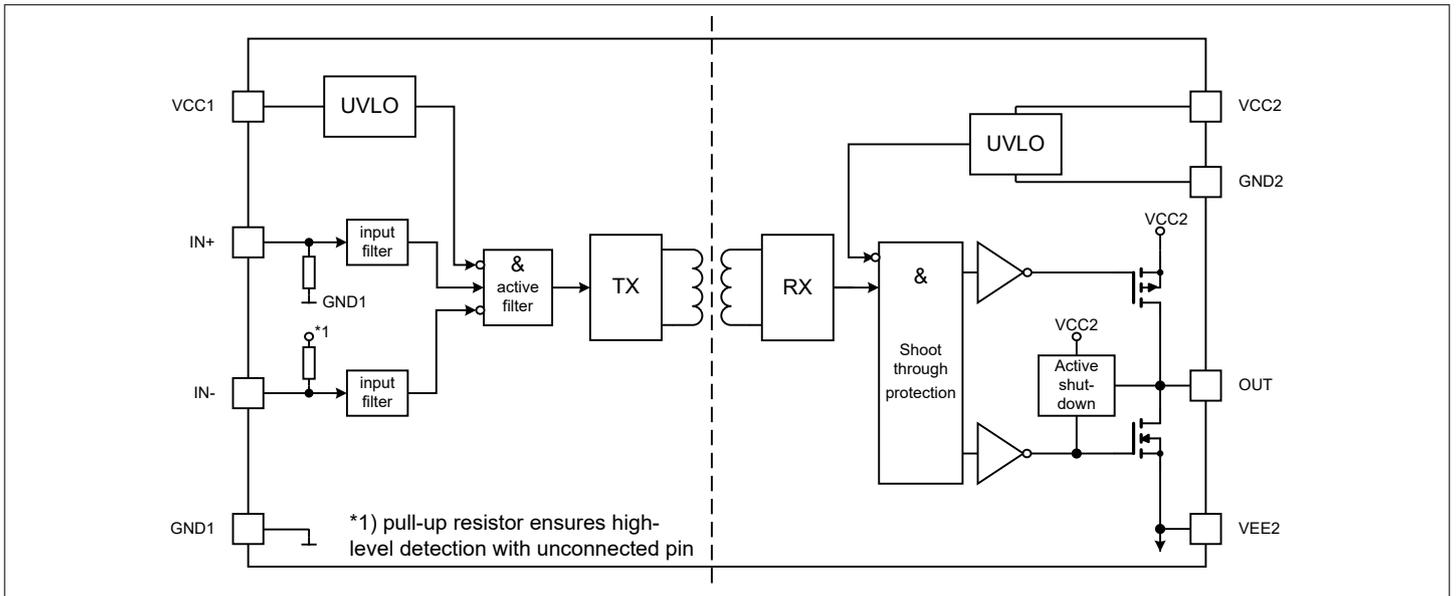

Figure 4 Block diagram for 1EDR3144HQE and 1EDR3146HQE
- **IN+:** Non-inverted control signal for driver output. An internal filter provides robustness against noise at *IN+*. If left open, an internal, weak pull-down resistor pulls this pin to a low state, as shown in Figure 4
- **IN-:** Inverted control signal for driver output. An internal filter provides robustness against noise at *IN-*. If left open, an internal, weak pull-up resistor pulls this pin to a high state, as shown in Figure 4